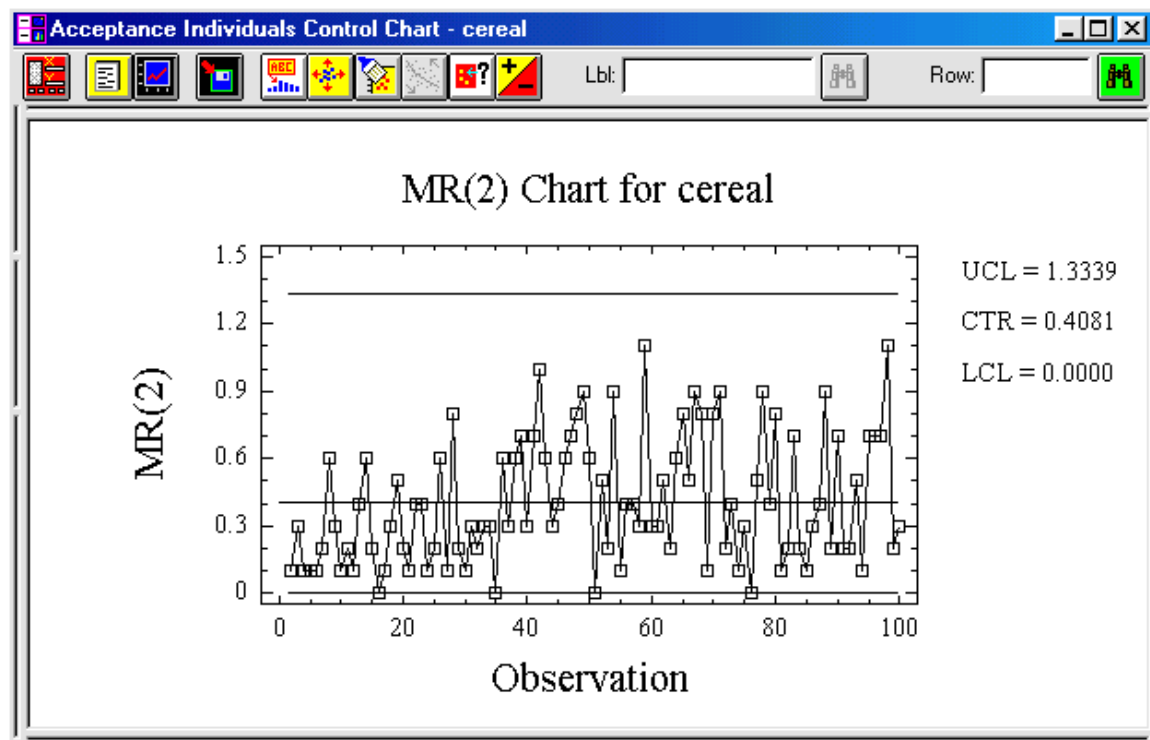

Figure 7-67. MR(2) Chart
The MR(2) Chart option creates a plot of the moving ranges for each of the measurements and shows the points that are beyond the control limits (see Figure 7-67).